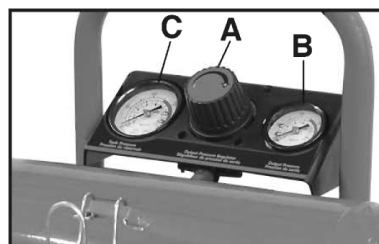

FIGURE 4
REGULATOR (A) FIG. 4
OUTLET PRESSURE GAUGE FIG. 4